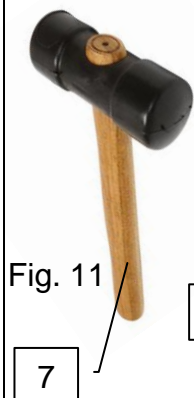
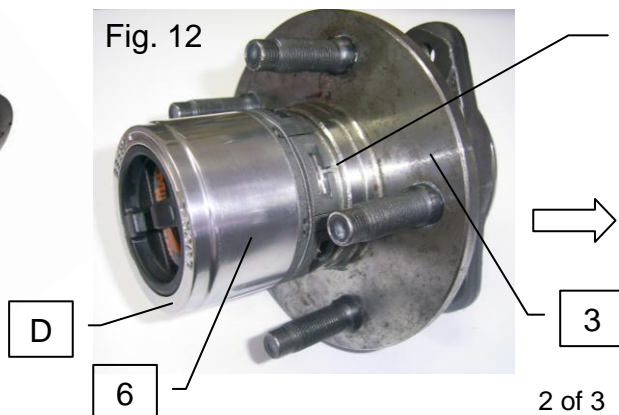
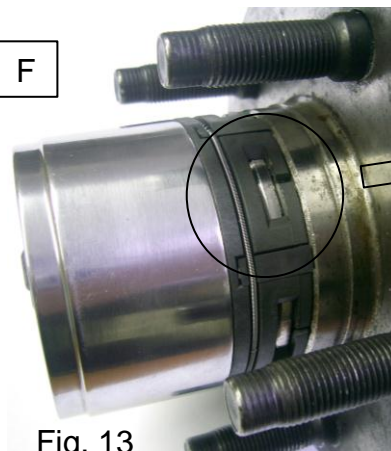

Fig. 11
Fig. 12
Fig. 13
7- Using a rubber hammer (7) [Fig. 11], strike the face "D" of the freewheel hub cover (6) [Fig. 12], until the claws "E" [Fig. 14] engage in channel "F" of the freewheel hub (3) [Fig. 13].
8- Inspect all claws "E" [Fig. 14] that fit in channel "F" of the freewheel hub (3) [Fig. 12], to make sure that all are perfectly fitted [Fig. 13].